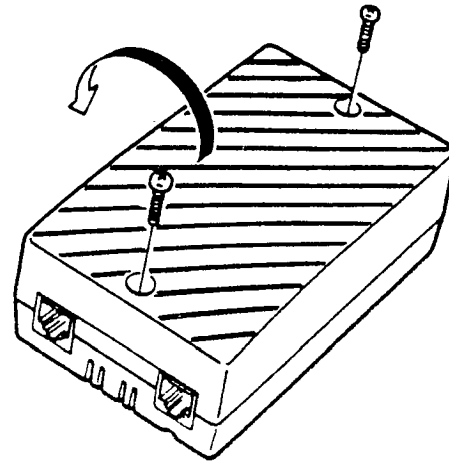

Figure 1-46 Removing the Screws from the Cover of the SLT-F(1G)-10 ADP
1. Open the unit by removing the two screws from the top of the SLT-F(1G)-10 ADP. [Refer to Figure 1-46 - Removing the Screws from the Cover of the SLT-F(1G)-10 ADP.]